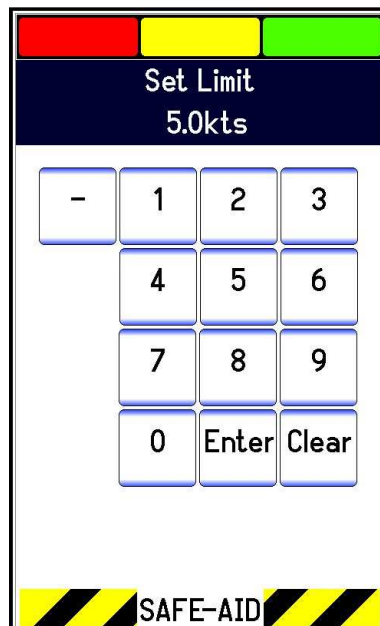

Figure 23
2. Enter the four digit password [ - - - ] followed by the **Enter** button the Set Limit screen will be displayed (figure 23).